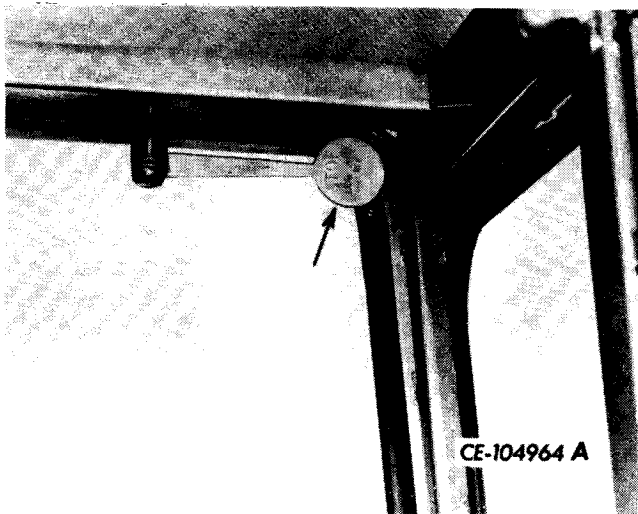

Fig. 3. Low Air Pressure Indicator
19. LOW AIR PRESSURE INDICATOR (Figs. 3 and 4)